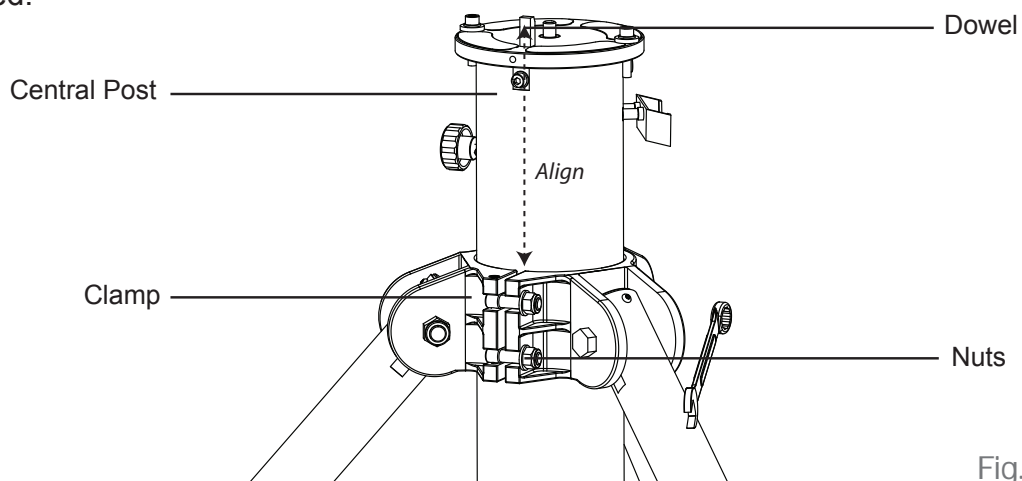

Fig. 1.1c
3. Fully release the clamp of the central post by loosening the two hex nuts on it with a 19mm hex wrench (Fig 1.1c).
4. After the clamp is fully released, rotate the central post in the clamp to roughly align the dowel on the tripod top with the gap of the clamp. (Fig 1.1c)
6. Slide the central post up/down in the clamp (Fig. 1.1c) to the proper height and then tighten the 3 thumb screws on the spider trusses to prevent the central post from falling.